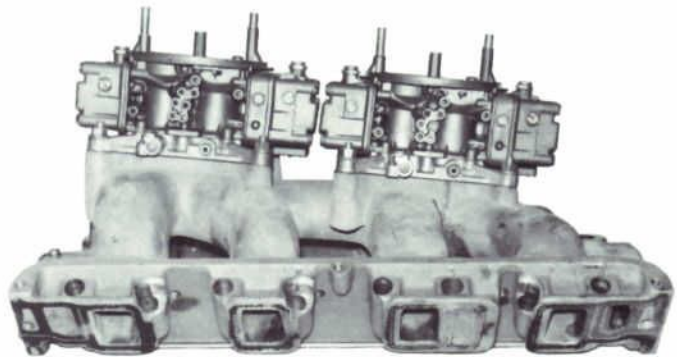

Figure 8—Dual 4-bbl. Holley Carburetors on "Medium" Riser Manifold
(7) Install an 8V (2 4-bbl.) aluminum, single plane intake manifold (Ford Part No. C8AX-9424-A) and a pair of 652 cfm Holley 4-bbl. carburetors (Ford Part No. C8OF-9510-AC) and C8OF-9510-AD) as shown in Figure 8. This "single plane" type induction system will substantially increase the breathing capacity of the engine. Appropriate changes to the accelerator linkage are also necessary to complete installation of this system.